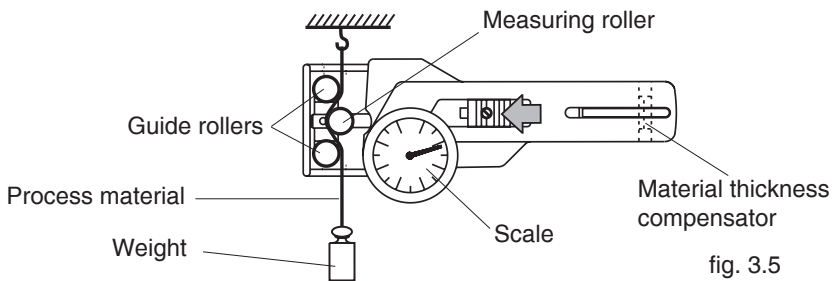

fig. 3.5
- Suspend a known weight that corresponds to the tension to be measured (pay attention to the correct unit of measure) from the Process material, vertically, as shown in fig. 3.5 (Always use a fresh portion of the material to be measured).